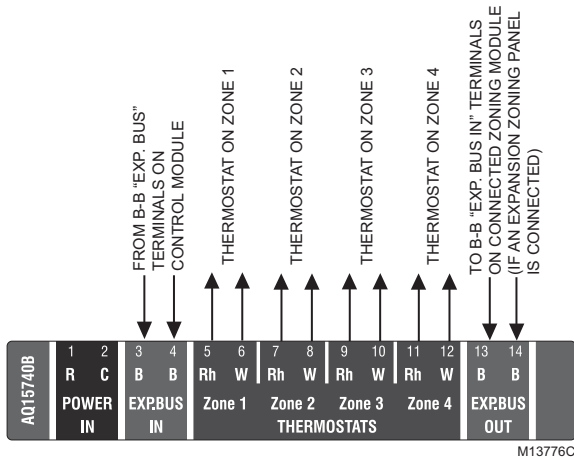

Fig. 8. Connecting thermostats.
- Using low voltage thermostat wire, connect one thermostat from each zone to the corresponding THERMOSTATS Zone X inputs on top of the Zoning Module (see Fig. 8).